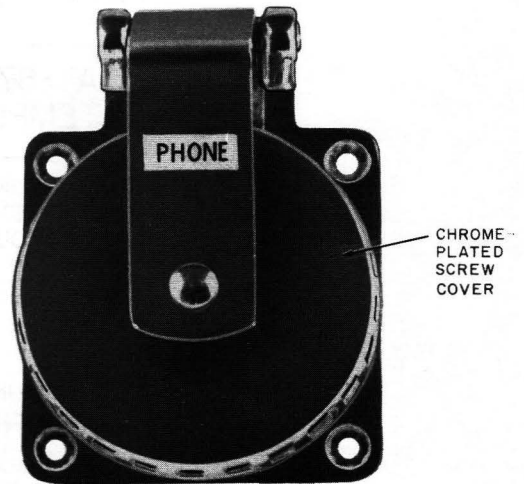

Fig. 14—B Waterproof Male Jack (Front View)
2.10 The B waterproof male jack (Fig. 14 and 15) is mounted on a boat and receives the female plug of the B weatherproof cord to provide service to boats. It is chrome plated with a hinged screw cover which makes the jack waterproof when not in use. Three screw terminals stamped R, T, and GR on the rear of the jack provide connection to ring, tip, and ground. A rubber boot covers the screw terminals on the rear of the jack to minimize the possibility of accidental contact with these terminals.
- One B waterproof male jack (mounted on boat to accept cord, Fig. 14 and 15)